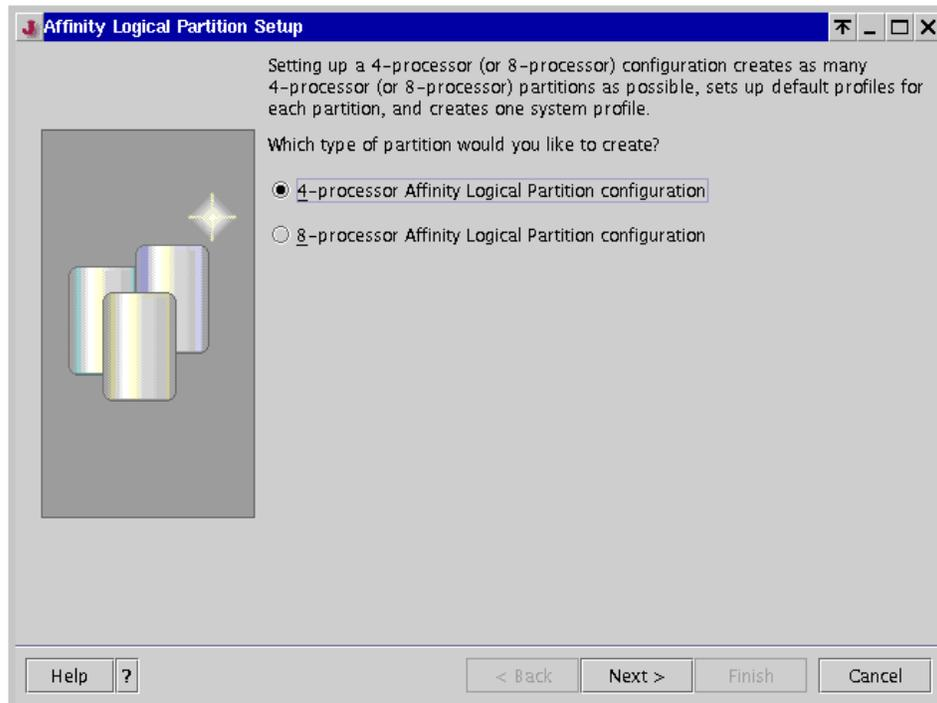

Figure 6-13 Selecting 4-processor or 8-processor ALPAR configuration
3. The Affinity Logical Partition Setup wizard opens, as shown in Figure 6-13.